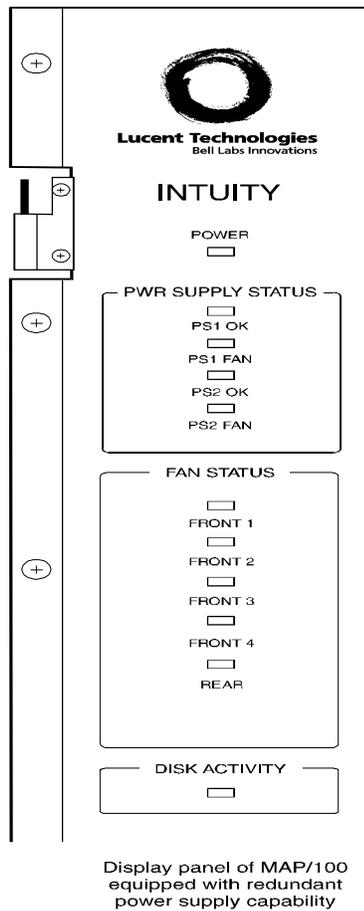

Figure A-9. MAP/100 Front Panel Display
MAP/100s equipped with a single power supply, installed by the Lucent factory, will have the power supply located in position PS1 and a filler panel located in position PS2 (Figure A-9). MAP/100s equipped with redundant power supply will have a second power supply in place of the filler panel in position PS2.
There are two indicators, on the front panel (Figure A-9), for each power supply in a MAP/100. The "PS1 OK" and the "PS2 OK" lights indicate that the power supplies are working properly. If one of these lights is not lit, the system has detected a fault. The power supply fan can not be serviced. As a result, the entire power supply must be replaced.
4. Place the power switch on the power supply in the off position (Figure A-9).
6. Loosen the two 1/4-turn fasteners that hold the power supply to the power module assembly (Figure A-9).
8. Make sure the "PS1 OK" and "PS1 FAN" light on the front panel of the MAP/100 are both lit (Figure A-9).
2. Loosen the two 1/4-turn fasteners that hold the filler panel to the power supply module assembly (Figure A-9).
8. Make sure all four of the power supply indicator lights on the front panel of the MAP/100 are lit (Figure A-9).
1. Identify the power supply to be replaced by observing the power supply status indicators on the front panel of the MAP/100 (Figure A-9).
3. Place the power switch on the defective power supply in the off position (Figure A-9).
5. Loosen the two 1/4-turn fasteners that hold the power supply to the power module assembly (Figure A-9).